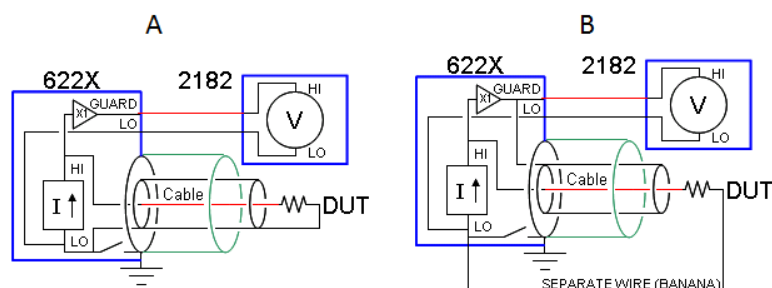

Figure 14. Inner shield connected to: A) output low (LO), B) as cable guard. (source – *help of the KI6220 application*)
- 21) Specifies how inner shield of a triax cable is connected. Possible choices are output low (fig. 14 A) or guard (fig. 14 B). **In the unguarded mode, cabling is simple, but cable (and voltmeter) capacitance may limit the speed of output current. The higher RDUT is, the slower the response.** If the 2182A nanovoltmeter is connected directly across the DUT (4W connections), it will add at least 500 pF, so eliminating cable capacitance will not be useful. **In the guarded mode, a driven guard eliminates cable capacitance for faster output current.** The source LO must be carried to the DUT on a separate wire. If it is acceptable to connect LO to earth within the 6221, then the outer shield of the triax cable can be used for this. (source – *help of the KI6220 application*)